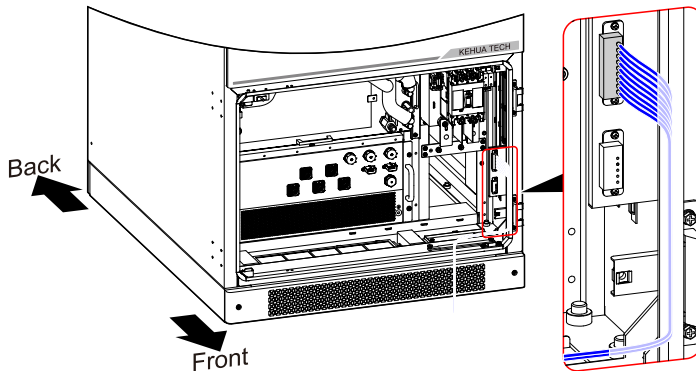

Figure4-28 Connection diagram of external communication cables
Step 3 Connect the crimped external communication cables to corresponding terminals of the energy storage system, as shown in Figure4-28.